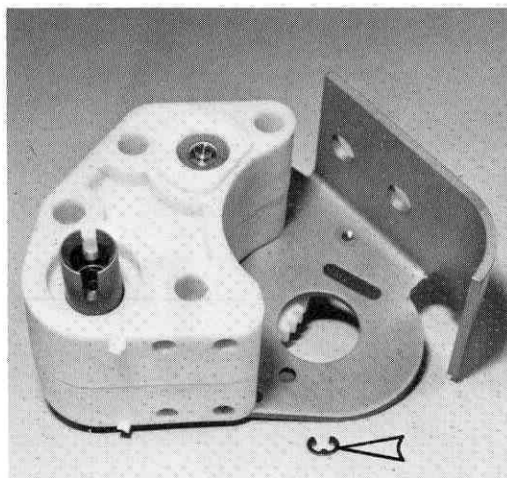

Fig. 90
- Fig. 90** Install an "E" clip on the end of the dif shaft.